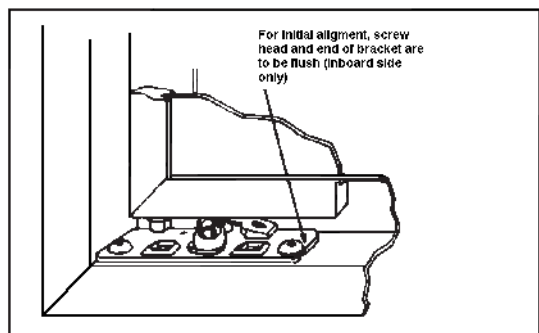

Figure 11
3. For proper alignment of the bottom mounting plates at the frame ends, the inboard screws should be flush with the end of the mounting plate. Refer to Figure 11.